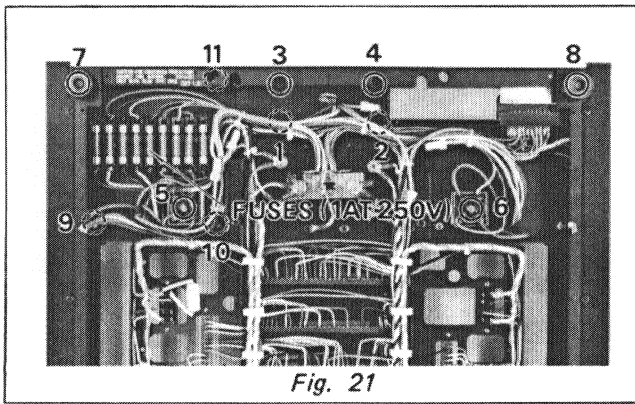

Fig. 21
Remove the bottom cover and then screws (1) to (4) as shown in Fig. 21. Then take out the circuit board.
Remove screws (5) and (6) as shown in Fig. 21, then take out the rectifier.
Remove the rubber foot screws (7) to (11) as shown in Fig. 21, then take the transformer out.